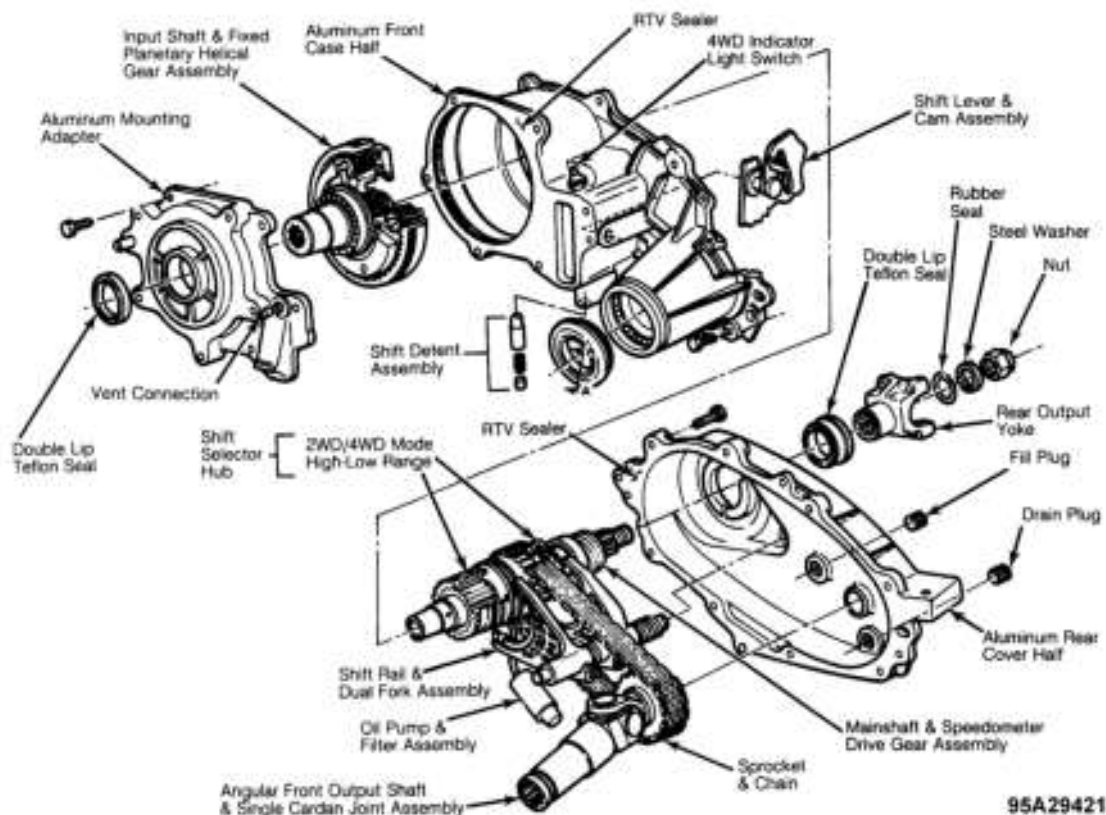

Fig. 11: View of Borg-Warner Manual Shift 1350 Transfer Case
10. If disassembly of 2WD/4WD lock-up assembly is necessary, remove internal snap ring and pull lock-up hub and spring from lock-up collar. See **Fig. 11** . Remove external snap ring and thrust washer that retains driven sprocket to front output shaft.